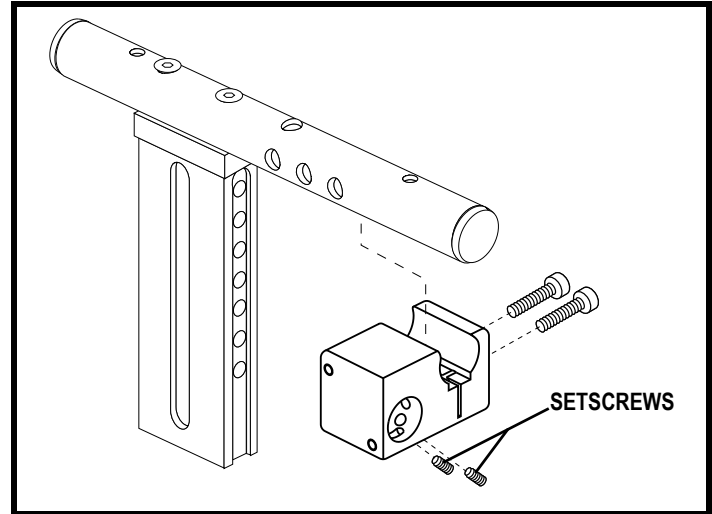

Figure 14. Controller Mount
3. Loosen the setscrews on the controller mount. See figure 14.